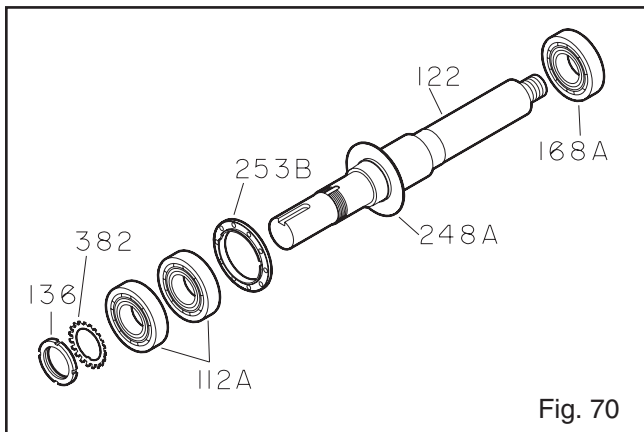

Fig. 70
6. Remove bearing housing O-ring (496).
7. Remove inboard bearing (168A) (Fig. 70).